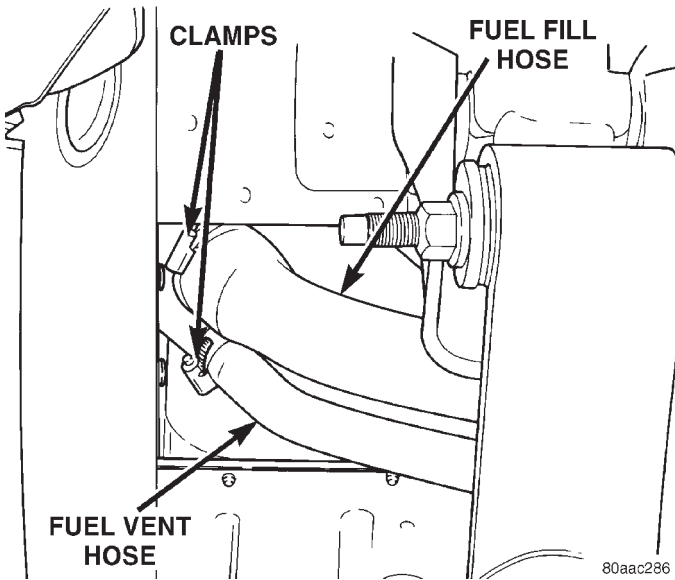

Fig. 34 Fuel Fill and Vent Hoses
- (6) Remove fuel tank fill hose and vent hose clamps at fuel tank filler tube (Fig. 34). Remove both hoses at fuel filler tube (Fig. 34).